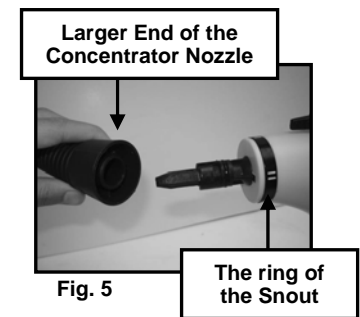

Fig. 5
- Align the raised arrow on the end of the hose with the single white line on the ring of the snout. (Fig. 5 & 6)
- Align the raised arrow on the larger end of the concentrator nozzle with the single white line on the ring of the snout. (Fig. 5 & 6)